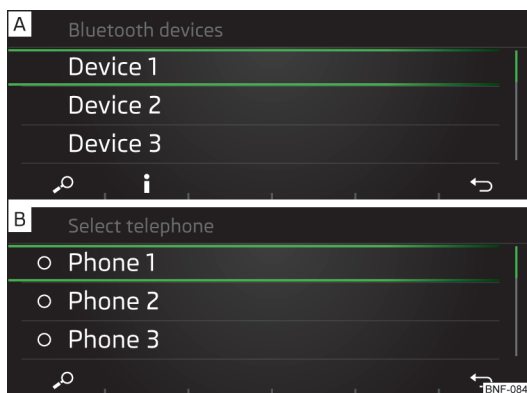

Fig. 110
- › Select the desired phone from the list of selected external Bluetooth® devices » Fig. 110 - [A].
- › To **display** information to connect to an external Bluetooth® device, press the function button » Fig. 110 - [A].
- › Select the phone » Fig. 110 - [B] or an external Bluetooth®-Device » Fig. 118 on page 86 - [A] in the list shown.